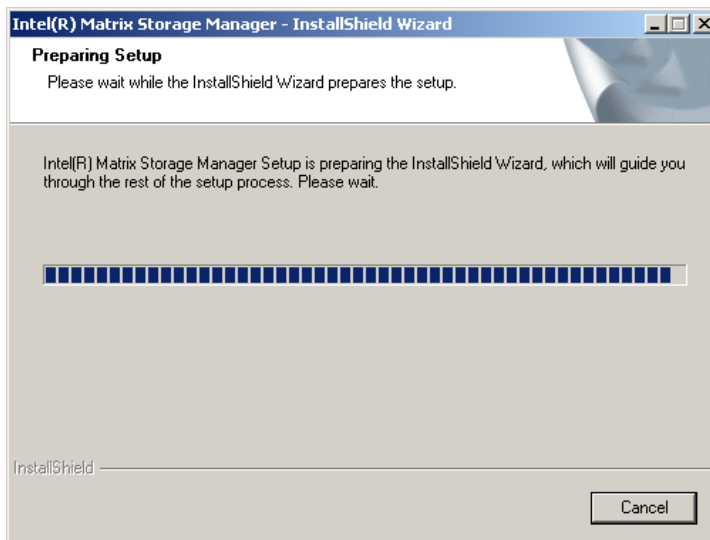

Figure 6-25: InstallShield Wizard Setup Screen
Step 4: Figure 6-25 shows the InstallShield Wizard preparing to guide the user through the rest of the process.